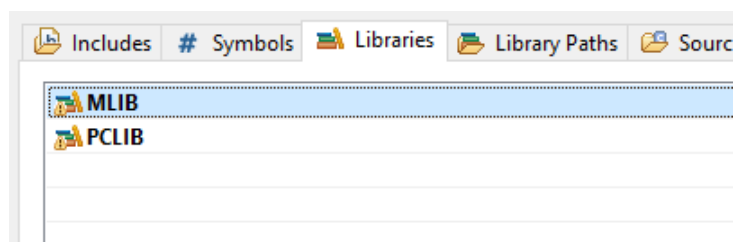

Figure 1-9. Libraries
9. After adding the library paths, add the library files. Click the Libraries tab. See Figure 1-9.
14. Click OK, and you will see the added in the list. See Figure 1-9.